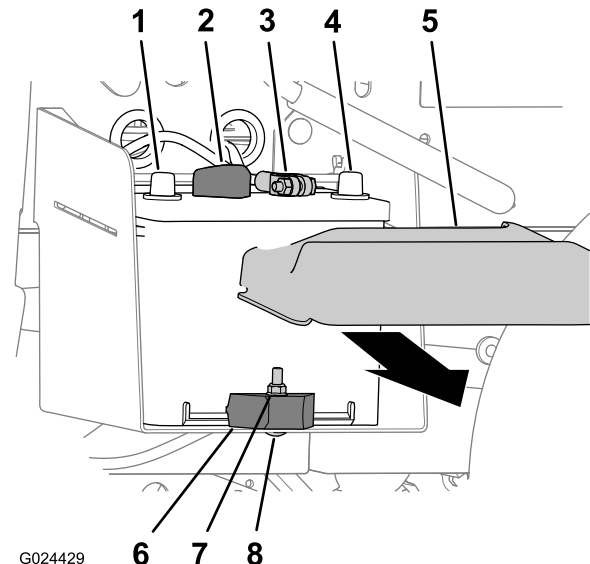

Figure 46
1. Squeeze the sides of the battery cover and remove the cover from the top of the battery (Figure 46).
2. Disconnect the negative battery cable from the terminal of the battery (Figure 46).
3. Disconnect the positive battery cable from the terminal of the battery (Figure 46).
2. Remove the locknut, carriage bolt, and battery clamp that secures the battery to the battery tray (Figure 46).
3. Remove the battery from the battery tray (Figure 46).
1. Align the battery to the battery tray of the machine (Figure 46).
Note: Ensure that the positive and negative posts of the battery are aligned as shown in Figure 46.
2. Secure the battery to the battery tray with the battery clamp, carriage bolt, and locknut (Figure 46).
1. Connect the positive battery cable to the terminal of the battery (Figure 46).
2. Connect the negative battery cable to the terminal of the battery (Figure 46).
3. Install the battery cover onto the top of the battery (Figure 46).